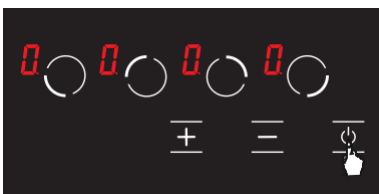

Figure 8
1.  Turn the Hob on by pressing the button. (See Fig. 8)